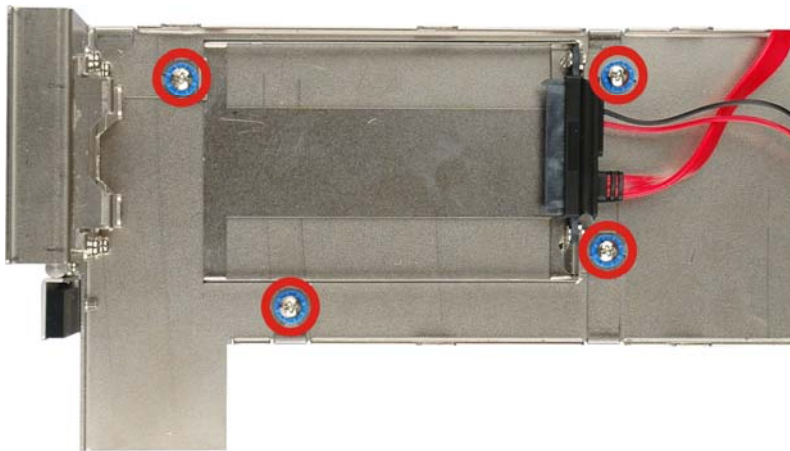

Figure 3-8: Remove the HDD Bracket from the Cover
Step 3: Unscrew the four retention screws that secure the HDD bracket to the cover. (**Figure 3-8**). Remove the HDD bracket from the cover.